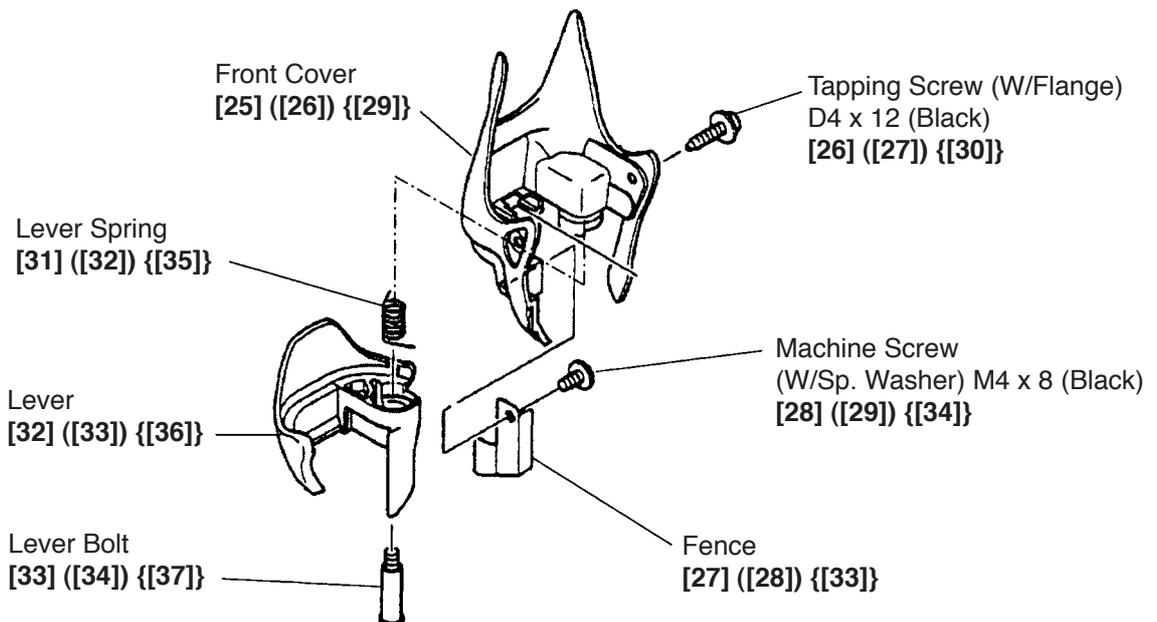

Fig. 3
(2) Disassembly of the Front Cover **[25]** **{[26]}** **{[29]}** (Fig. 3)